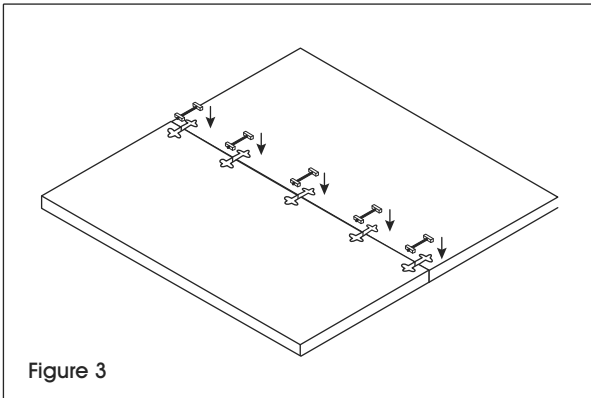

Figure 3
3. Place a tite joint fastener in each field joint opening. (See Figure 3)